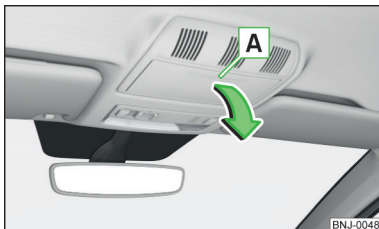

Fig. 75
- Press on the lid of the glasses storage compartment in area **A** » Fig. 75.
- Swivel the lid of the glasses storage compartment against the direction of the arrow » Fig. 75 until it audibly clicks into place.